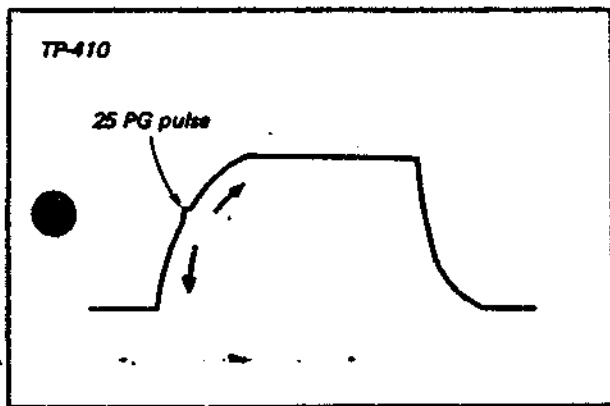

Fig. 6-5. Servo response-time adjustment
5. Adjust R454 to set the position of the 25 PG pulse with respect to the 25 Hz multivibrator ramp as shown by "T" in Fig. 6-5.
Observe the waveform on the scope. The PG pulse will move up and down a few times and then lock on the 25 Hz multivibrator ramp as shown in Fig. 6-5.